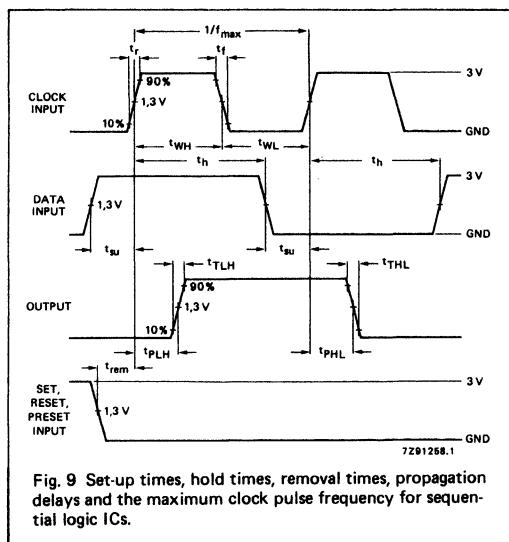

Fig. 9 Set-up times, hold times, removal times, propagation delays and the maximum clock pulse frequency for sequential logic ICs.
## Notes to Fig. 9
- In Fig. 9 the active transition of the clock is going from LOW-to-HIGH and the active level of the forcing signals (SET, RESET and PRESET) is HIGH. The actual direction of the transition of the clock input and the actual active levels of the forcing signals are specified in the individual device data sheet.